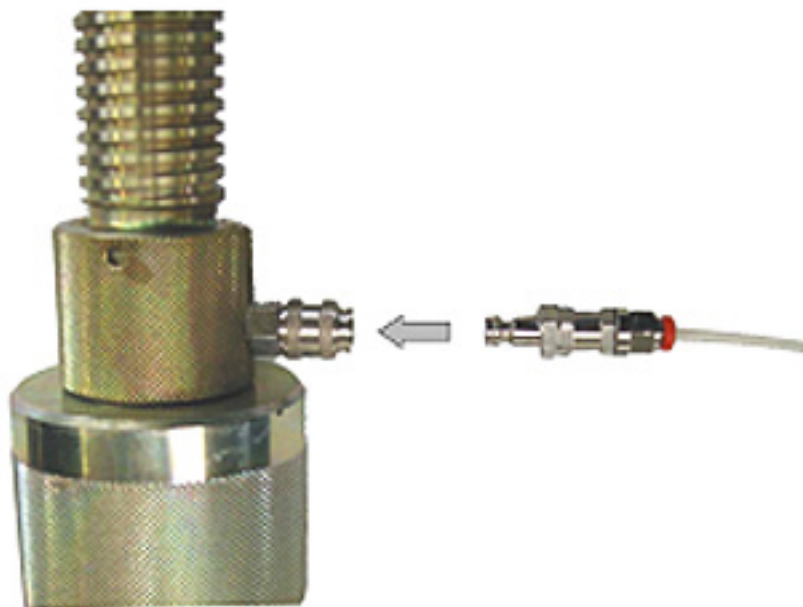

fig. 4
- 8 - After drilling the hole, unscrew the machine so that to retract the hole saw cutter into its carrier connector. The safety lock prevents the external bush from coming out of its place and being dangerous for the operator. Close the valve placed on the pipe and relieve the pressure through the proper piston (fig. 4).